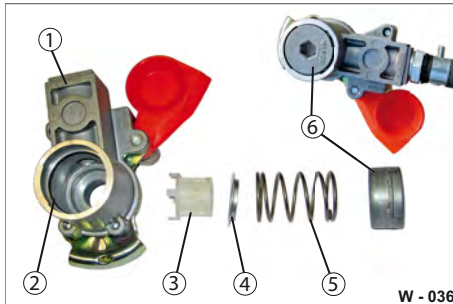

Fig. 36 Coupling head disassembled
- ▶ Press in the cover (Fig. 36/6) with a hexagon socket up to the limit position in the housing (Fig. 36/1). Turn the hexagon socket key by 90°. The cover opens.
- ▶ Remove the spring (Fig. 36/5), the metal ring (Fig. 36/4) and the filter (Fig. 36/3) from the housing.
- ▶ Check if the seal (Fig. 36/2) is present or damaged.